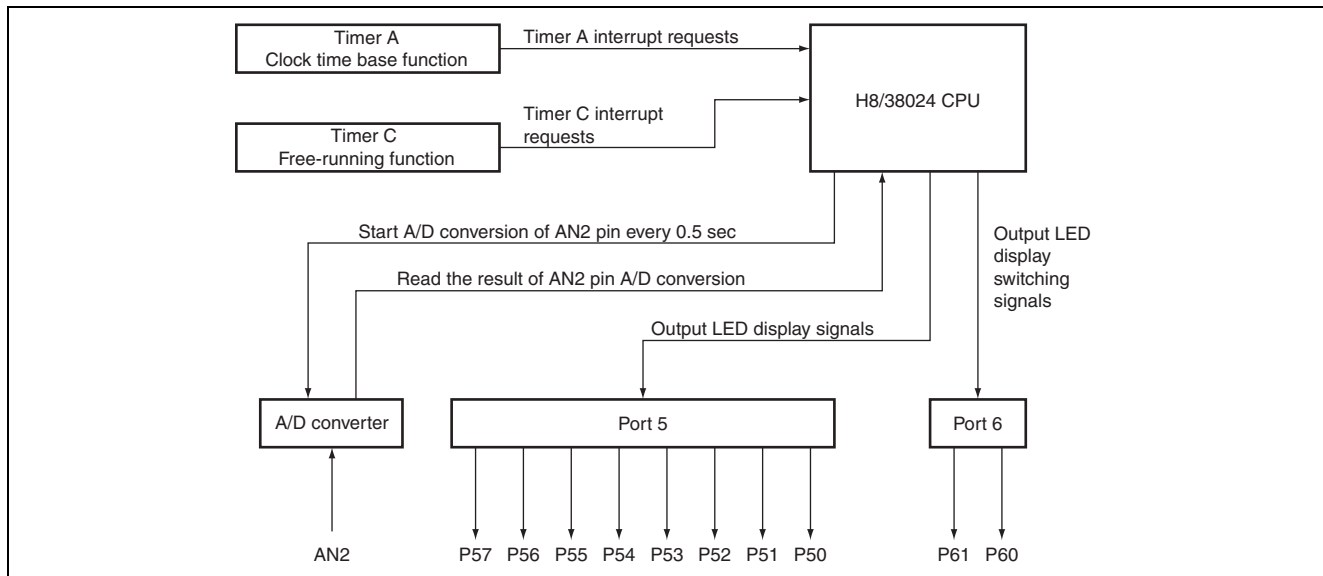

Figure 2.1 Block Diagram of Functions Used
1. Figure 2.1 is a block diagram of the H8/38024 functions used in this sample task. Table 2.1 shows function allocations.